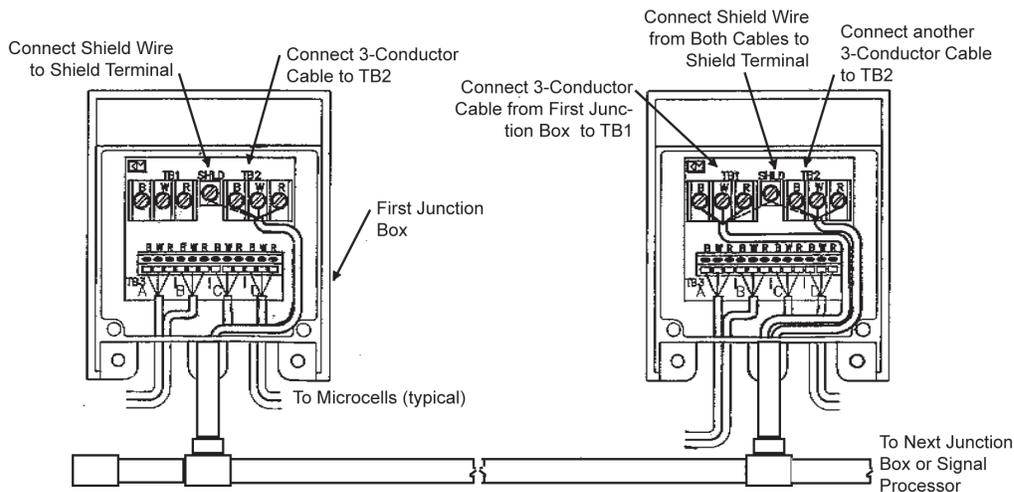
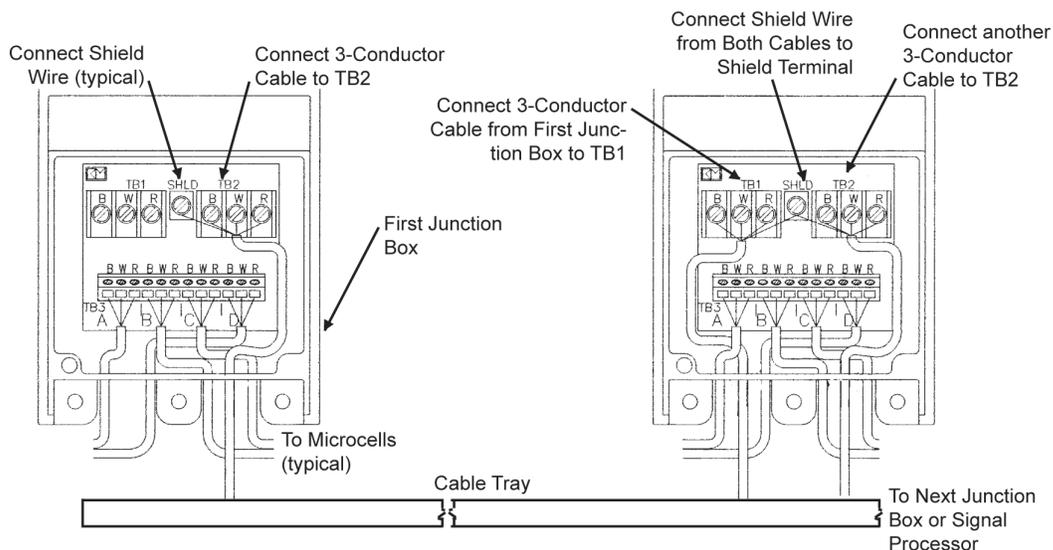

Figure 3-15. Wiring Junction Boxes Together - Conduited Installation.
Figure 3-16. Wiring Junction Boxes Together - Non-Conduited Installation.
- See Figure 3-15 (for a conduited installation) or Figure 3-16 (for a non-conduited installation). Route the 3-conductor cable through the fitting into the junction box farthest from the signal processor. Connect wires from the cable to the TB3 terminal in the junction box; black wire to B terminal, white wire to W terminal, and red wire to R terminal. Connect the cable shield wire to the Shield terminal between TB1 and TB2.